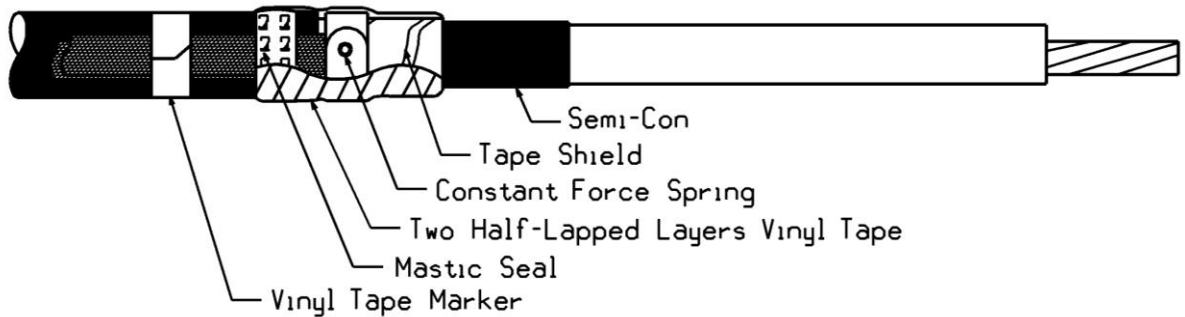

Figure 9
4. Wrap two half-lapped layers of vinyl tape around the mastic seal, constant force spring and exposed metallic shield. Do not allow the vinyl tape to lap onto the cable semi-con. Do not apply more than 2 half-lapped layers. **Note:** If vinyl tape was used to hold the copper tape in place in Step 2, remove it just prior to applying this tape. See Figure 9.